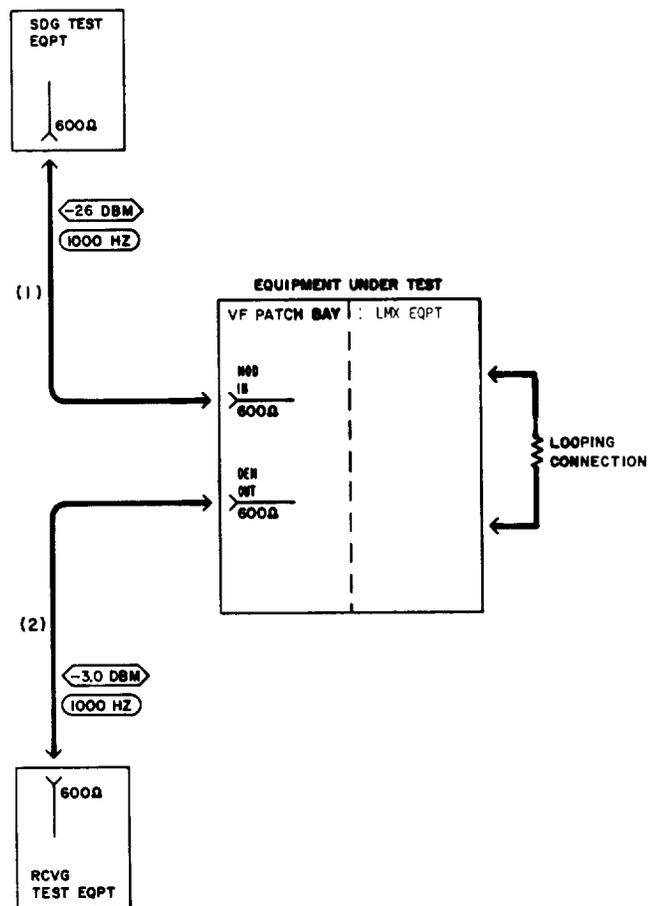

Fig. 10—Patching Diagram—Preparation
5	Connect the STE to the MOD IN jack for Channel 1 of the channel bank under test [patch (1), Fig. 10].
6	Connect the RTE to the DEM OUT jack for the channel under test [patch (2), Fig. 10].
8	Remove patches (1) and (2), Fig. 10.